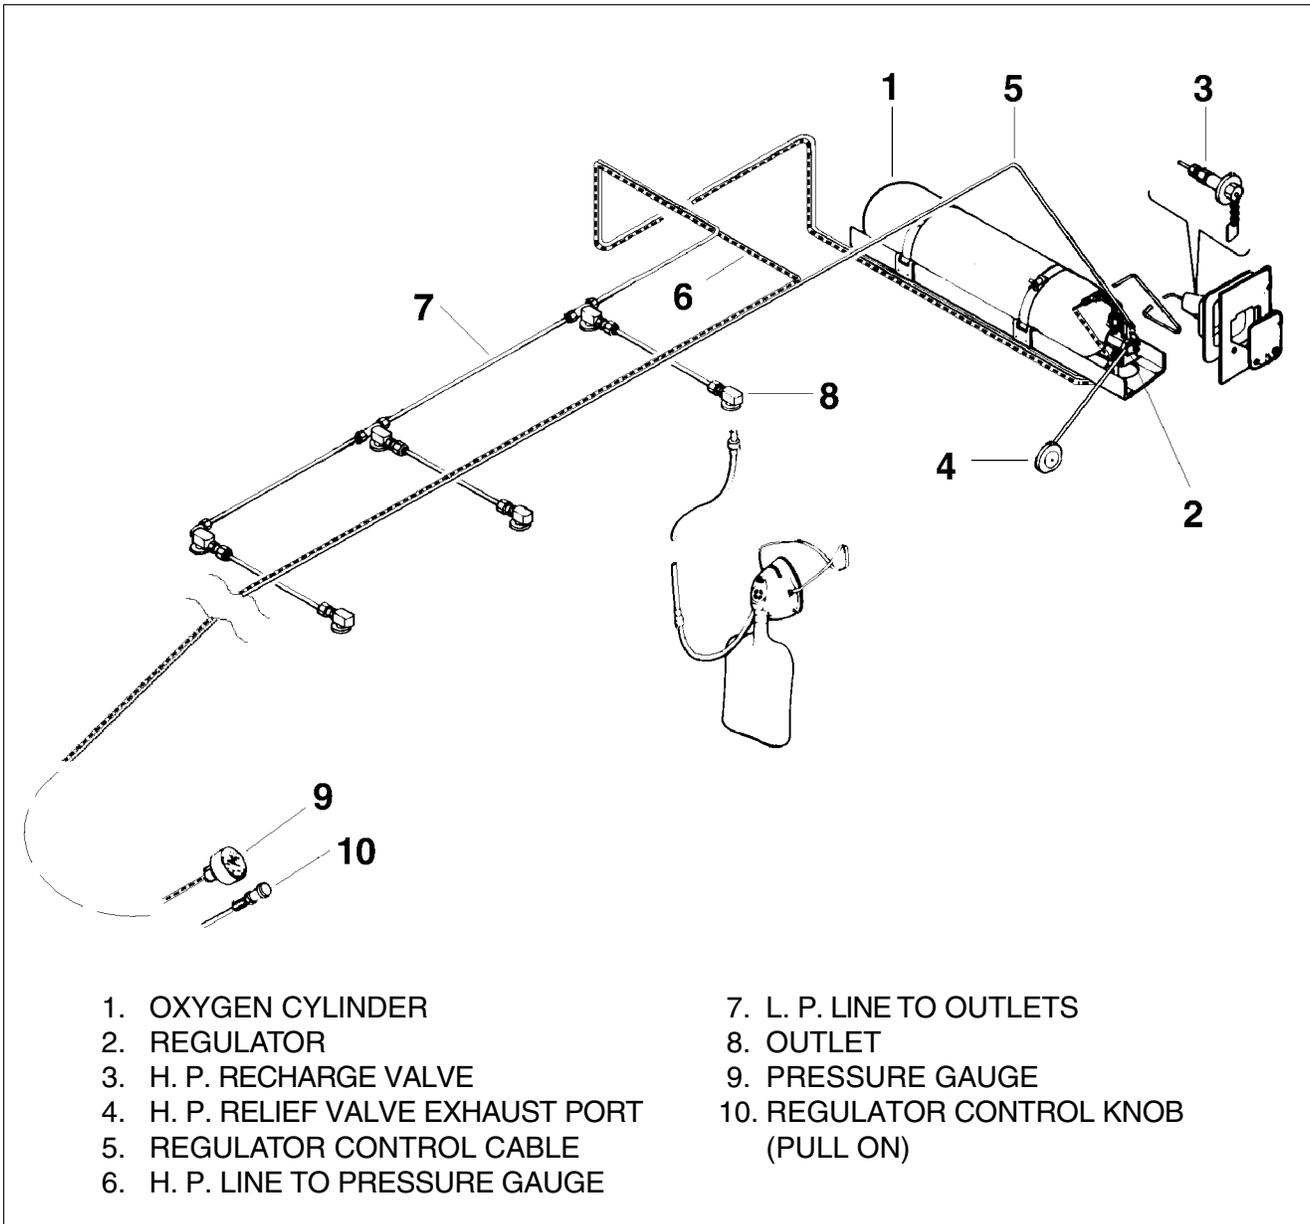

Figure 35-1. Fixed Oxygen System Installation
A. Description and Operation ( See Figure 35-1)